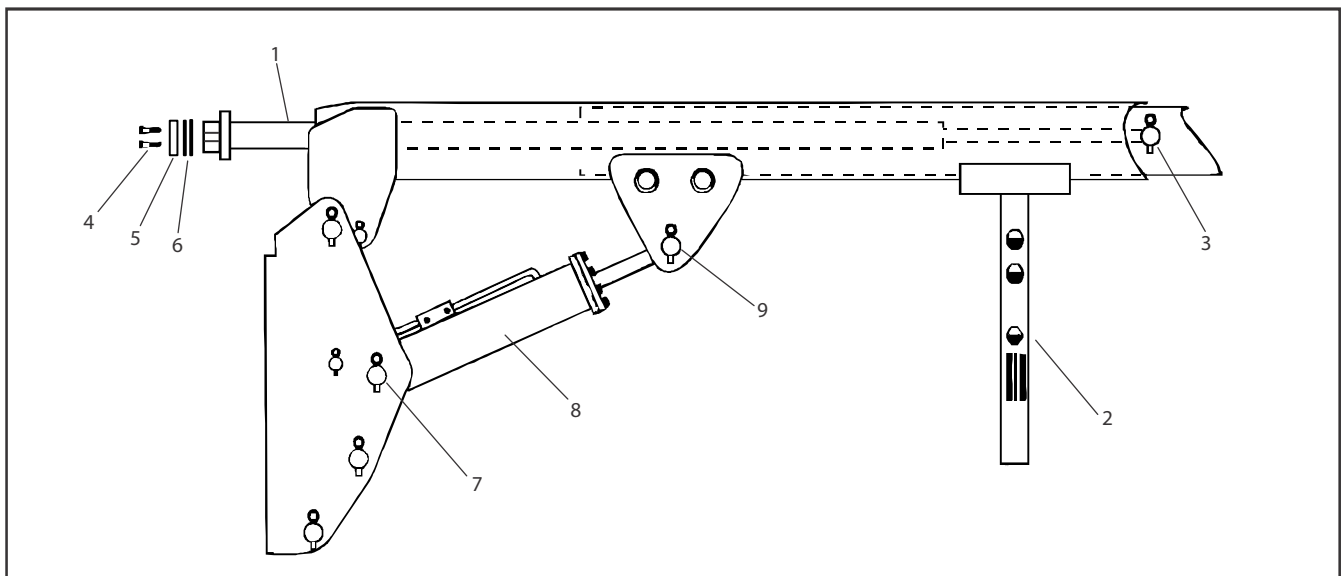

Figure 5-17. Telescope and Lift Cylinder Installation
NOTE: Refer to Figure 5-17. Telescope and Lift Cylinder Installation
NOTE: Refer Figure 5-17. Telescope and Lift Cylinder Installation
1. Place machine on a flat and level surface, with main boom horizontal. Shut down engine and prop boom See Figure 5-17. Telescope and Lift Cylinder Installation.
1. With boom positioned as in Figure 5-17. Telescope and Lift Cylinder Installation, slide telescope cylinder into boom, aligning cylinder port block end with slotted holes in Base Boom. Secure telescope cylinder with mounting hardware.